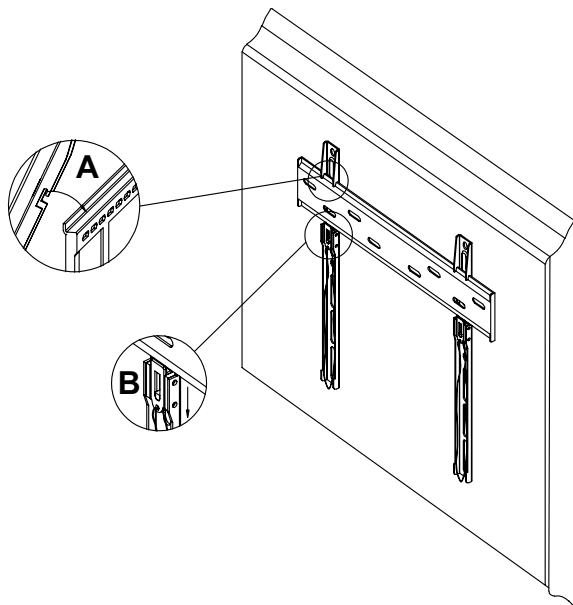

Figure 5 - Attach TV Assembly to Wall Plate
Hang the pre-assembled TV unit on the Wall Plate, hooking the brackets into the groove (A) on the Wall Plate. Pull down to release the safety catch (B) on both Brackets to attach the assembly to the bottom of Wall Plate (Figure 5).